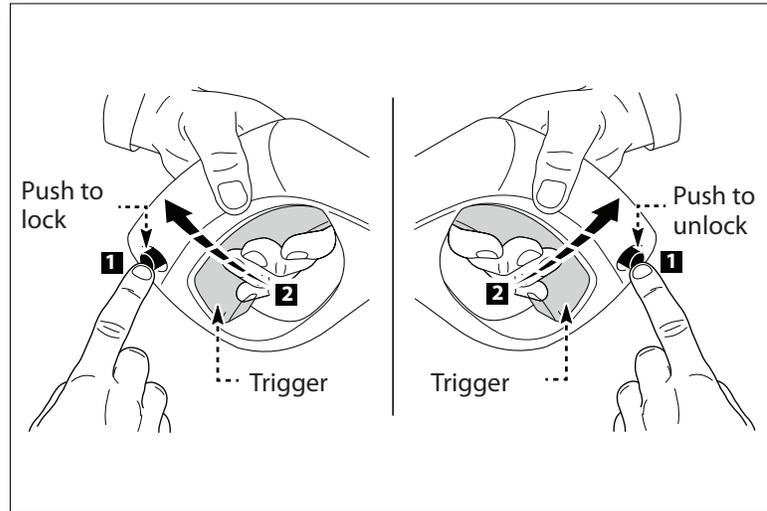

Fig. 7
- To lock the trigger of the spray gun aim the gun away from you and push the lock button from right to left, (Fig. 7), after doing so, squeeze or pull the trigger to make sure it is locked and will not move. Always leave lock button in lock position when not in use. This ensures the gun is in “safe” mode until it is ready for use.